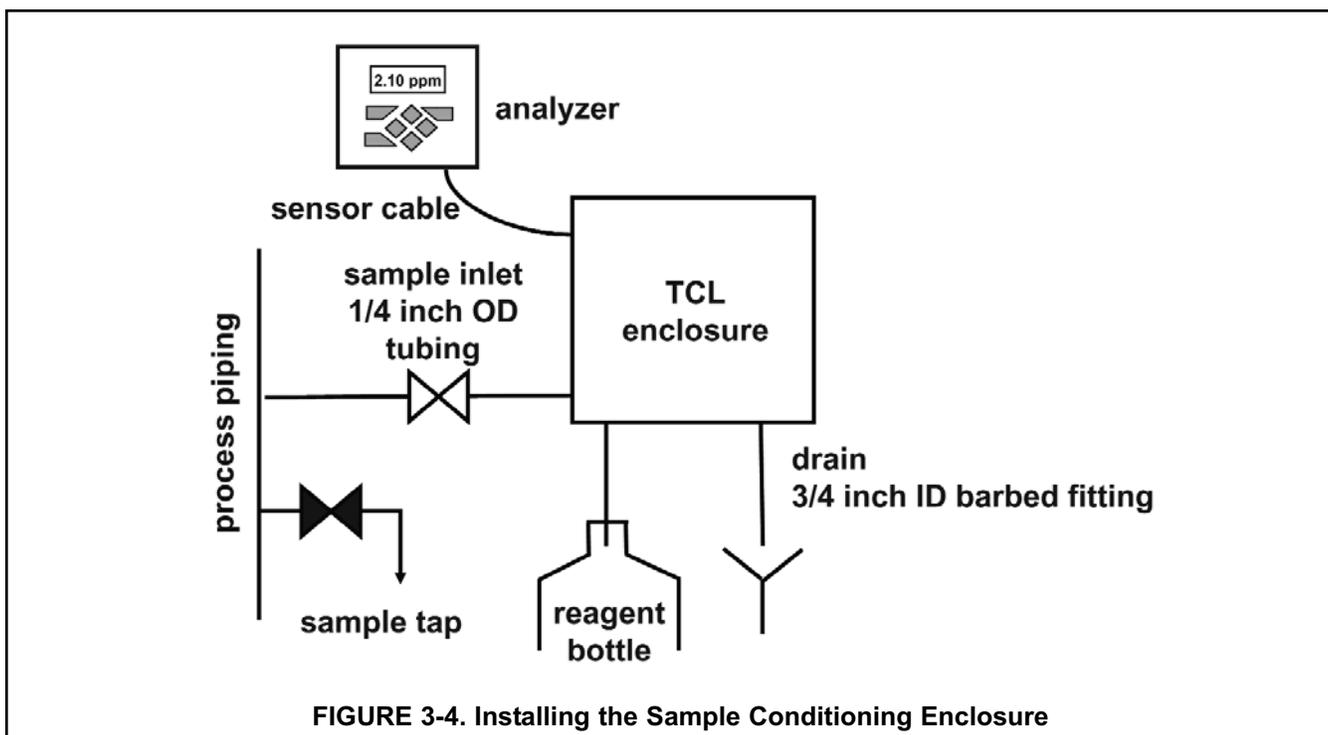

FIGURE 3-4. Installing the Sample Conditioning Enclosure
1. Refer to Figures 3-4, 3-5, and 3-6 for installation details.